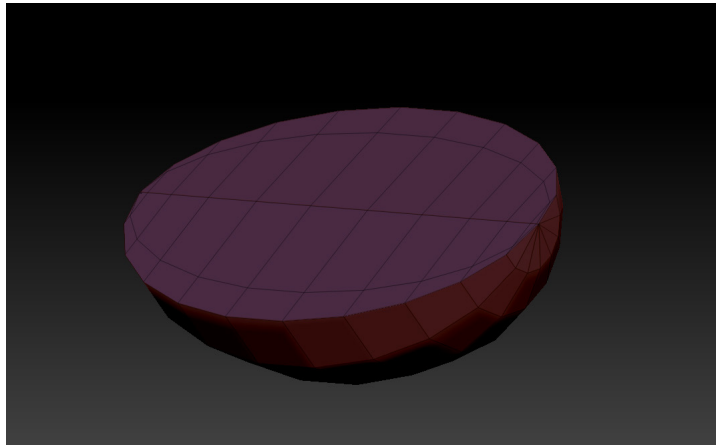

Figure 3-113 The edge loop created
3. Hover the cursor over the edge and click; the edge loop is created, as shown in Figure 3-113.